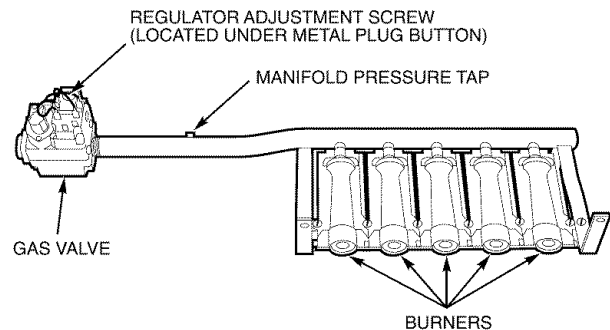

Fig. 65 — Burner Tray Details
10. Slide the burner tray out of the unit (see Fig. 65).